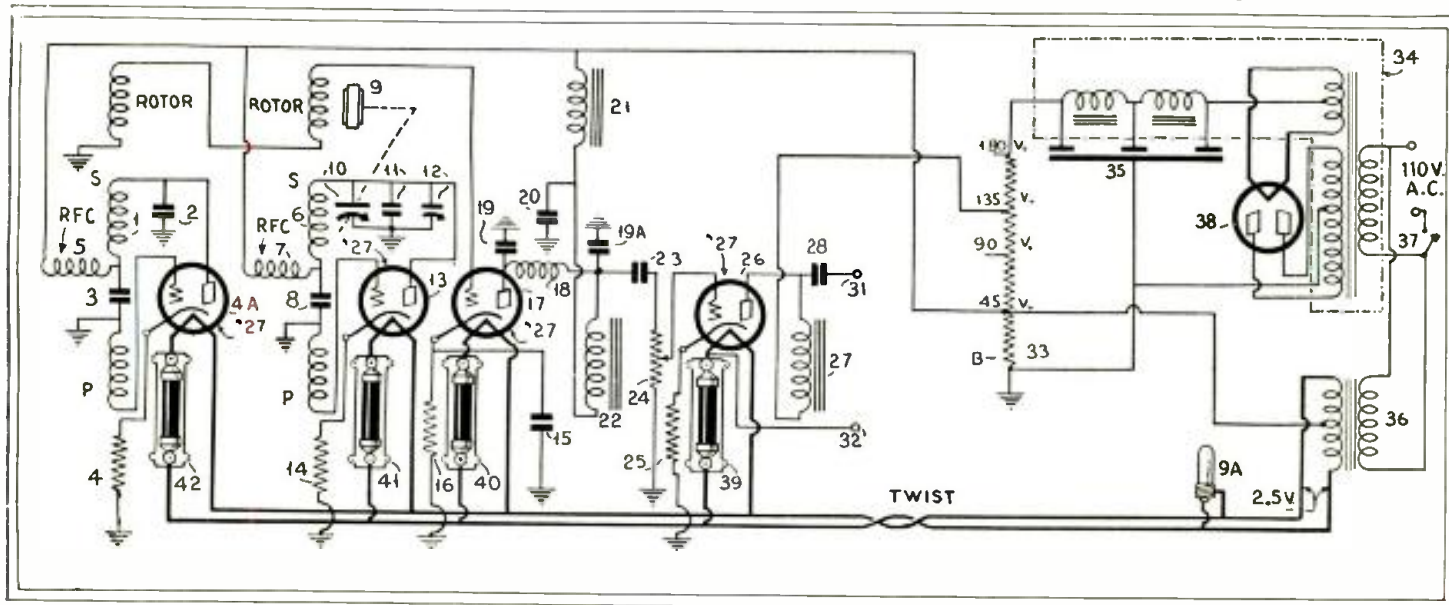

Fig. 1
It comprises (Fig. 1) two oscillators (4A) and (13), a detector (17), and an A.F. amplifier (26); all these tubes are of